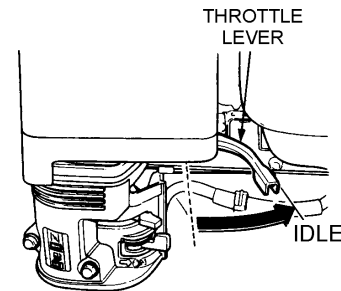

Figure 14. Throttle Lever (Idle)
1. Move the throttle lever to the "IDLE" position (Figure 14) and run the engine for three minutes at low speed.